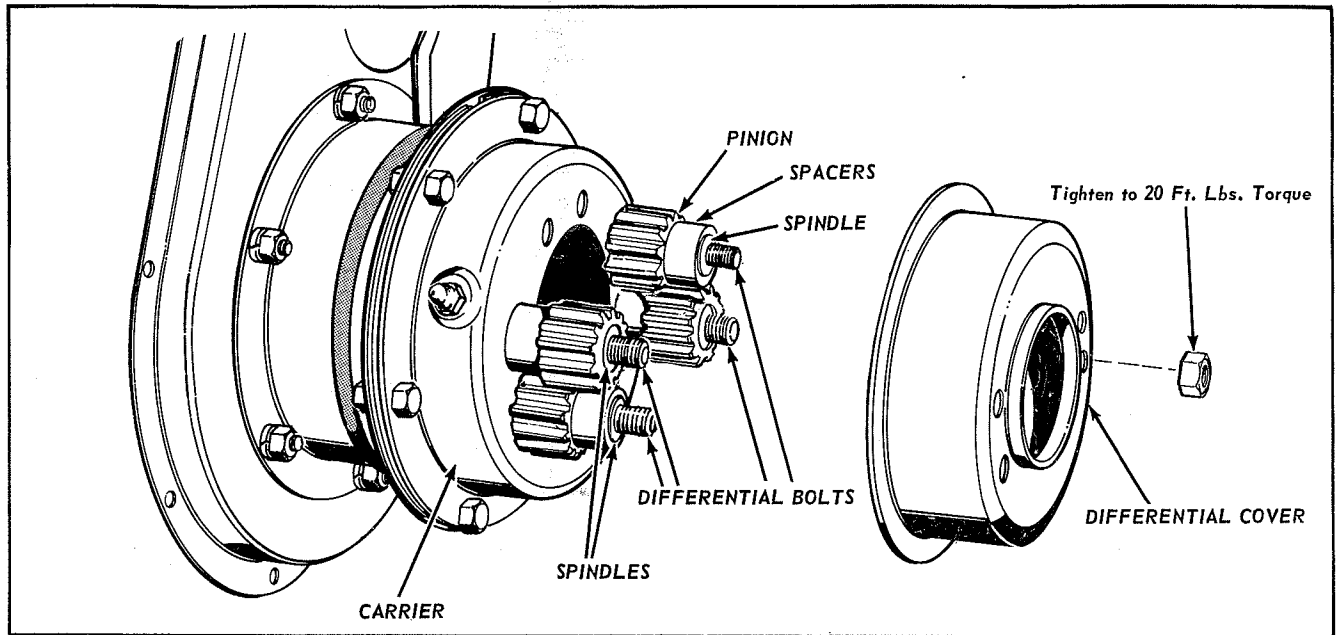

Figure 8
6. Place a differential spindle on each bolt of the carrier, and then install spacers and pinions in an alternate sequence as shown in Figure 8. Place the cover in position and tighten the 4 hex lock nuts to 20 ft. lbs. torque using a torque wrench.